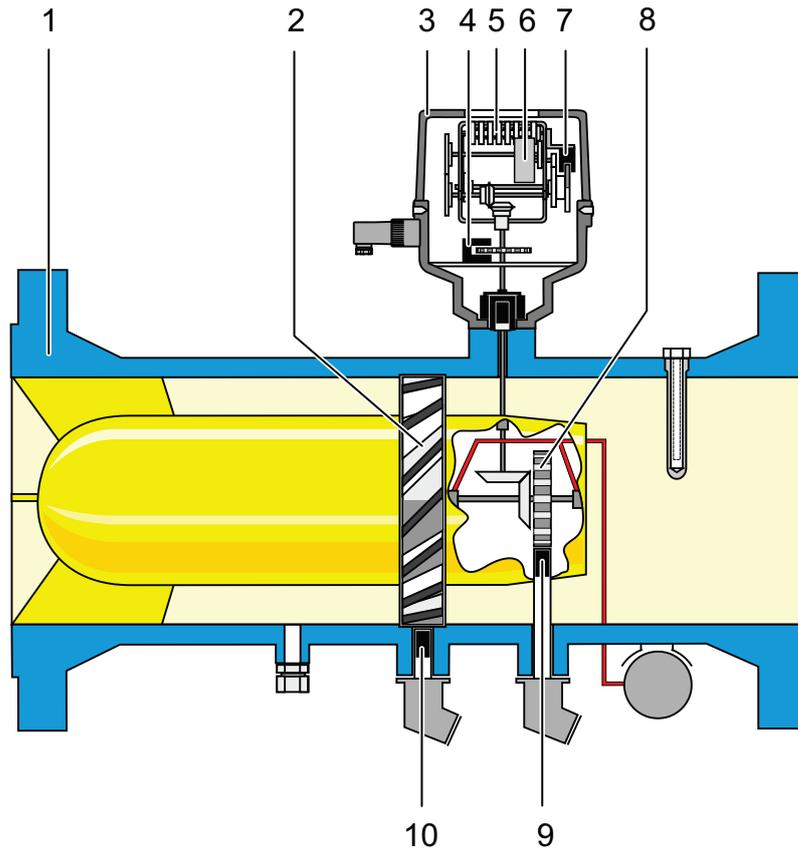

Fig. 25: Sectional drawing of turbine meter (example)
Various signal or pulse generators are available for recording the speed, which transmit low-frequency (LF) or high-frequency (HF) pulses to the flow computer. The following schematic diagram provides an overview of their possible arrangement in a turbine meter (cf. fig. 25).